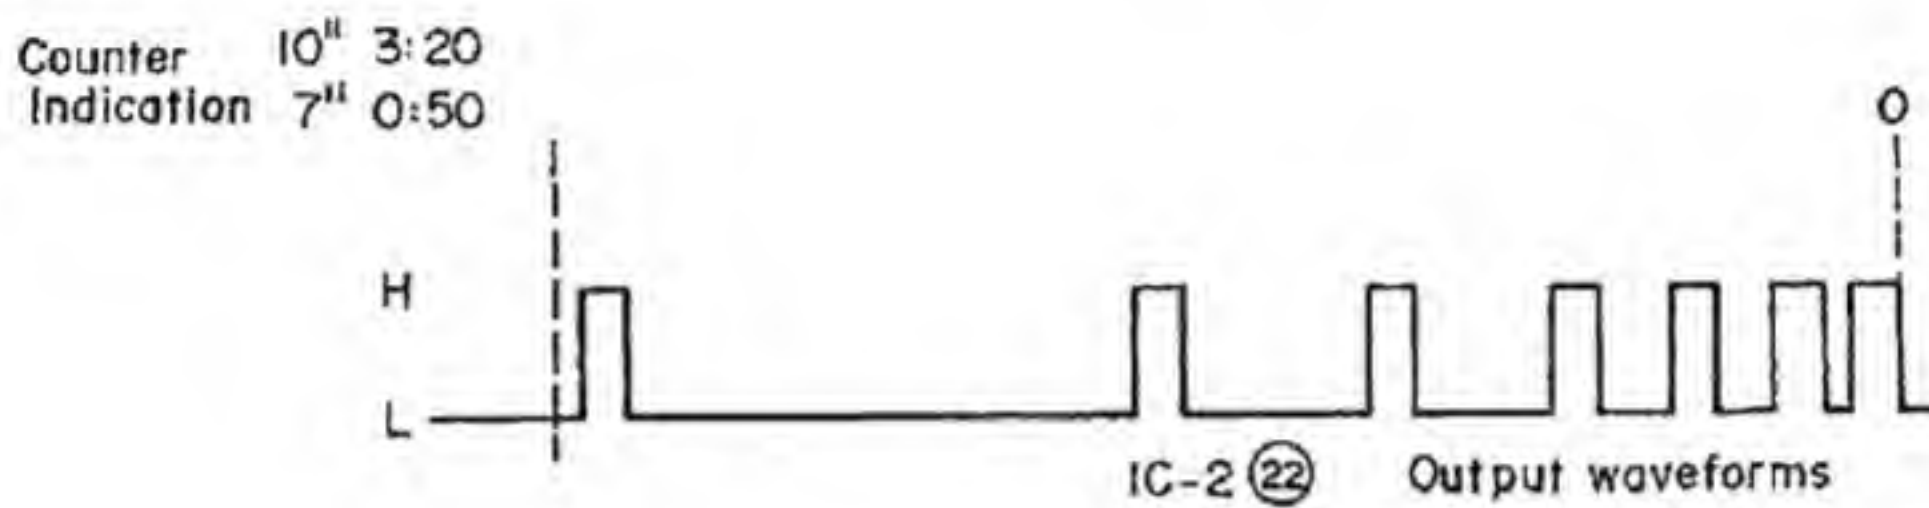

Fig. 32
Such waveform as shown in Fig. 32 appears at IC2 (22).